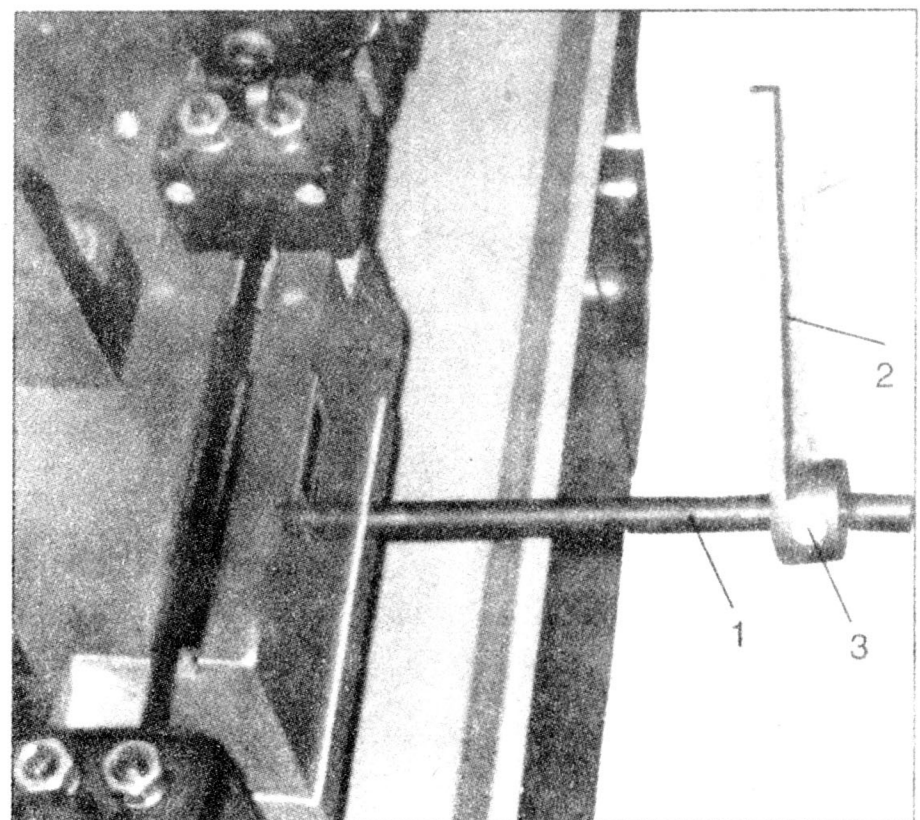

Fig.2
4. Slide material stop bar (1, Fig. 2) into base, then take out nut and washer to tighten the bar (1). slide material stop (2) onto bar and tighten bolt (3).